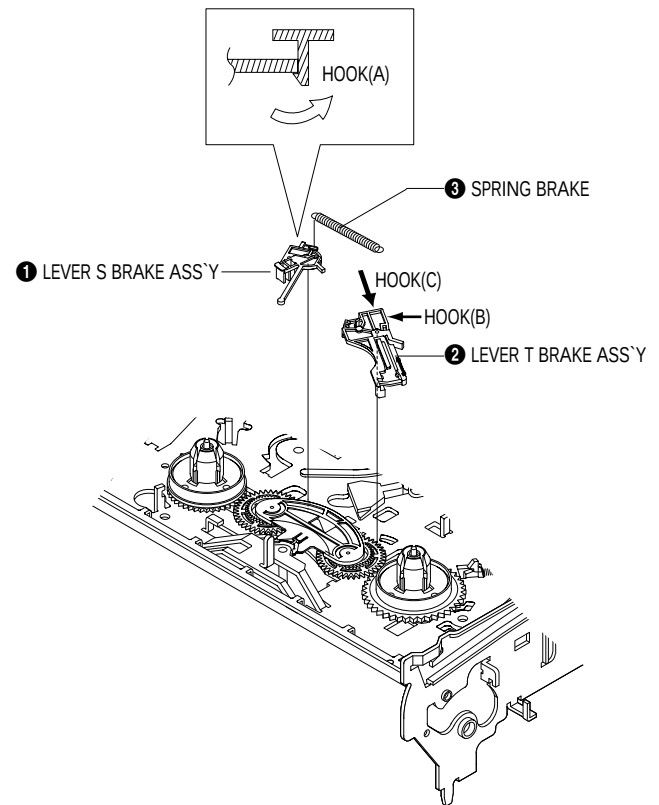

Fig. 1-17 Lever Brake S, T Ass'y Removal
- 1) Remove the Lever Brake S Ass'y (Refer to Fig 1-17).
- 1) Release the Hook [A] and the Hook [B], [C] in the direction of arrow as shown in Fig 1-17.